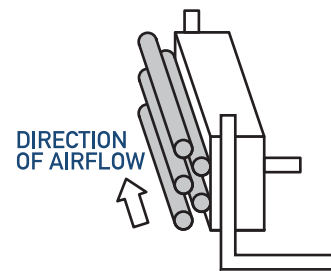

FIGURE 2 - SUGGESTED "L" BRACKET MOUNTING
- To mount the units inside an air handling unit, use "L" shaped brackets that are secured to the walls or floor of the AHU with sheet metal screws. The units should be installed so there is sufficient airflow across the ionization tubes, after the system filter, and not immediately downstream of the cooling coil to avoid any moisture carryover. See figure 2
- It is preferable, although not mandatory, to install the units with the tubes parallel to the airflow. See figure 2